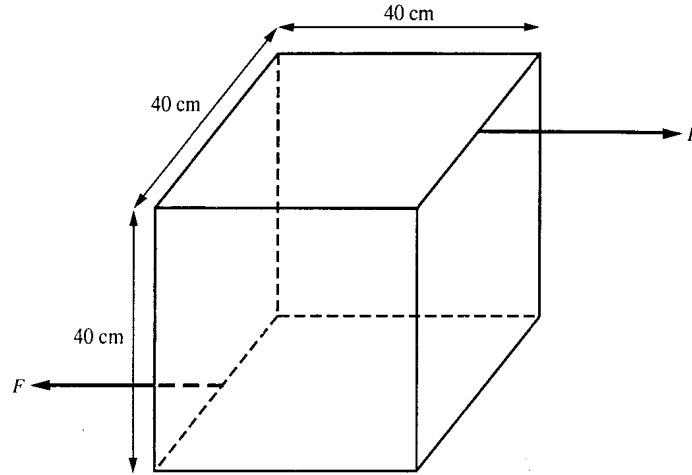

Fig. 11-3
**Problem 11.6.** Two equal and opposite parallel forces each of magnitude 6 kN, are applied to a cubical metal block which is 40 cm on a side, as shown in Fig. 11-3. The shear angle is found to be  $\phi = 0.00036^\circ$ . Find (a) the shear stress and the shear strain on the block, and (b) the shear modulus for the metal. (c) What would the shear angle be if the same forces were applied to a cubical block of the same metal that was 120 cm on a side?